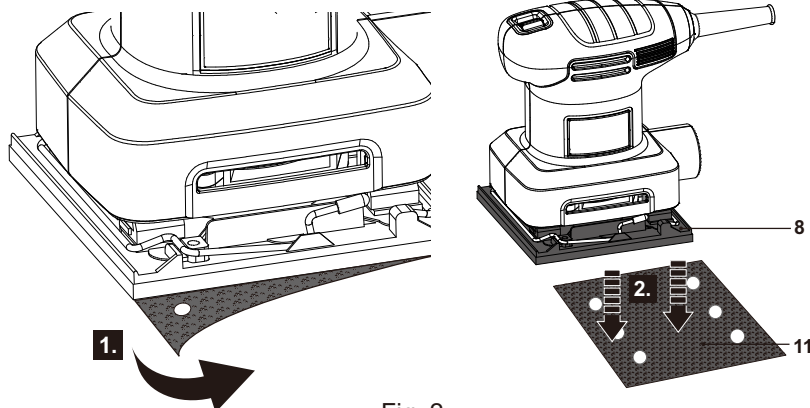

Fig. 2
- > Grip one corner of the sanding paper (11) and pull it off the base plate (8) (Fig. 2).